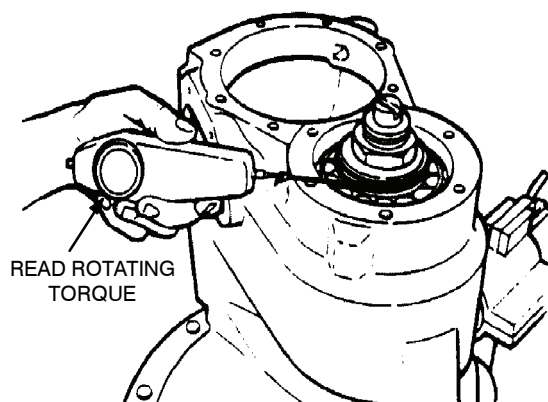

Figure 59.
- (2) Rotate drive pinion with torque wrench and observe reading on dial. Use rotating torque, not starting torque.
- (3) Correct bearing pre-load is 5–45 in. lb. for new bearings or 10–30 in. lb. for re-used bearings.
- (4) A second method of checking pre-load rotating torque is as follows:
- (b) Next, calculate for radius of washer by measuring outer diameter of washer and dividing by two (2). Multiply the pound reading from scale by washer radius (in inches) to obtain inch-pound torque value. Refer to Figure 59.